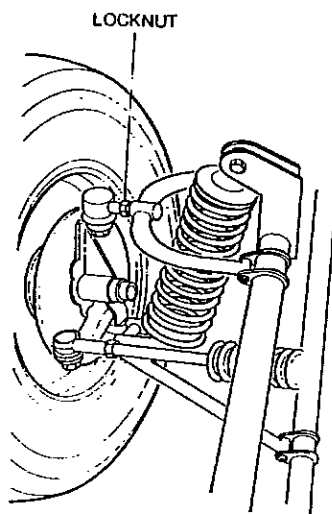

Fig. 47. Front Camber Angle Adjustment
1. Release the ball-joint nut under the king post (fig. 47).